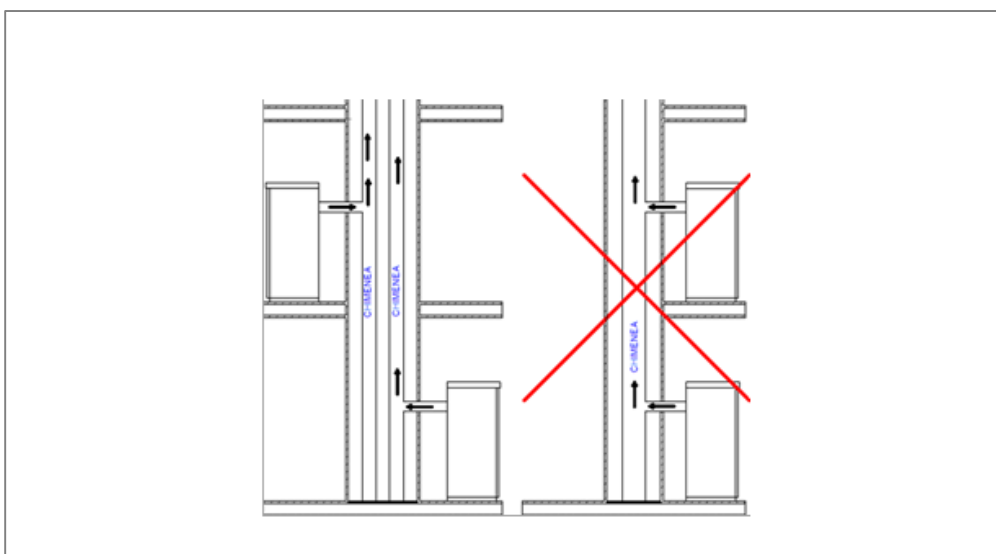

Figure 5
6. If the kitchen does not heat or smoke, it is always due to a faulty draft. For what is described below see figure 5.